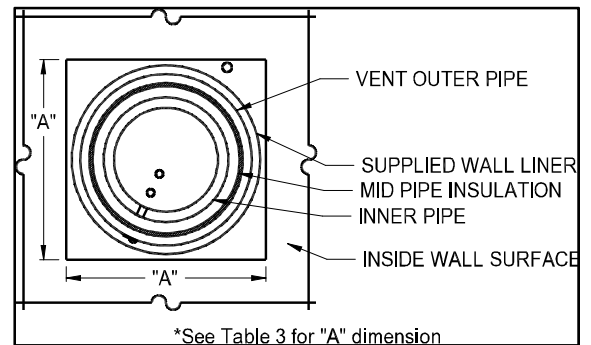

Figure 6
- b. Make sure to keep the outer pipe centered in the hole. (See Figure 6)
If mounting the power vent through a combustible wall materials use the supplied wall thimble liner pipe. See page 4 for more information. (See Figure 6) The wall thimble can be removed for installations through non-combustible wall material. The wall liner pipe may need to be cut to length for wall thickness under 8".
2. Apply a bead of the supplied silicone sealant to the back, top and sides of the riser section mounting flange. Mount power vent to the wall. Make sure to pass the flexible conduit and pressure tubing through the wall. Make sure to keep the outer pipe centered in the hole. (See Figure 6)